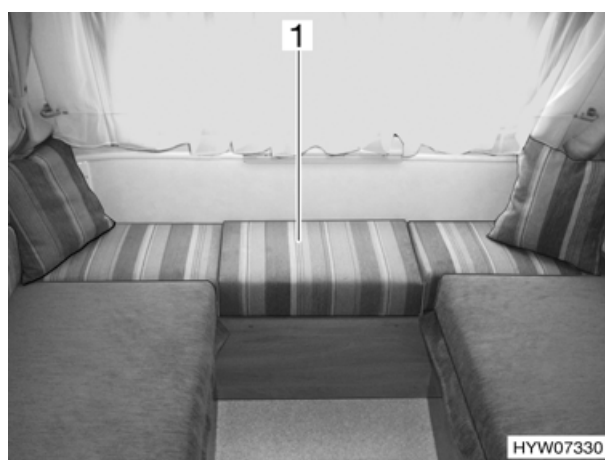

Fig. 28 Seating group after extending
- Insert the additional cushion (Fig. 28,1).